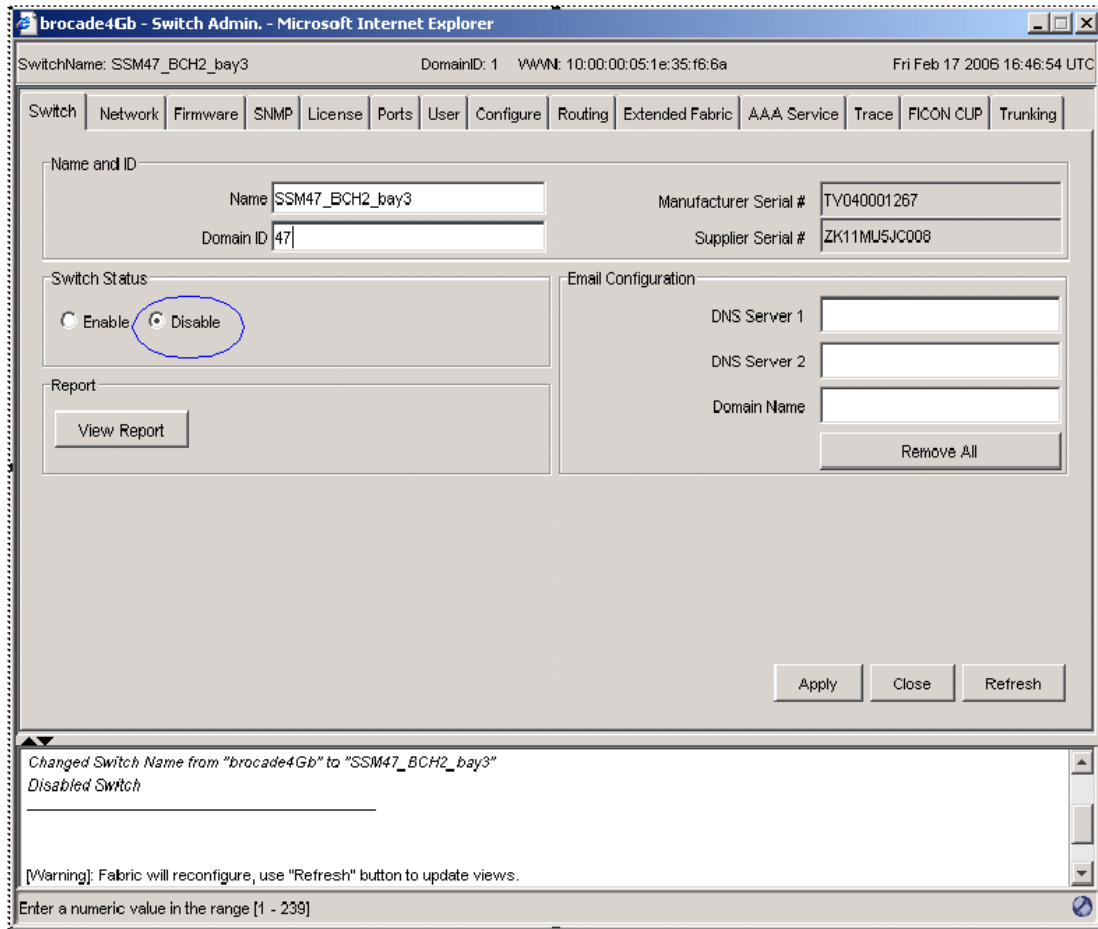

Figure 5-8 Admin window
- Set the Switch Status to **Disable**, as shown in Figure 5-8. You must disable a switch before changing Domain ID.